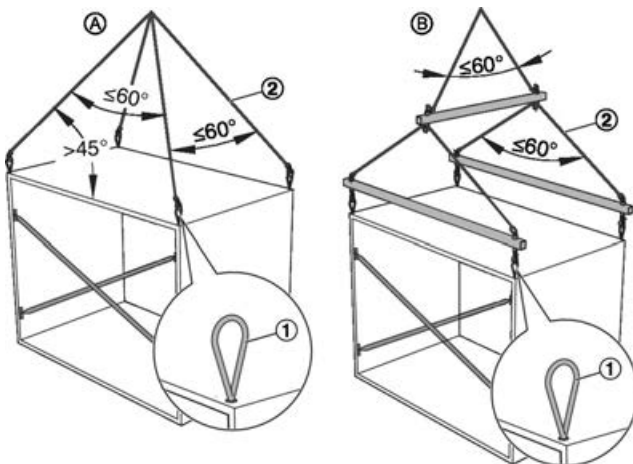

Fig. 6: Using lifting eyes for moving units with a crane
- (A) Moving units with ropes/chains
- (B) Moving units with a spreader beam
- (1) Lifting eye
- (2) Slings
- 2 ▶ Insert all lifting eyes (Fig. 6 /1) completely into the threaded holes.
- 3 ▶ Hook the slings (Fig. 6 /2) into the lifting eyes.